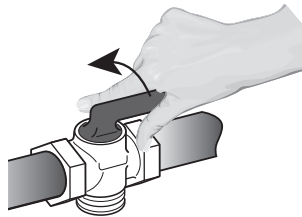

Figure 11
- 2** Shut off the gas supply to the appliance by closing the manual shut-off valve. (See Figure 11)